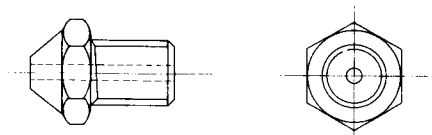

Fig. 2
- The component shown in Fig. 2 is shown